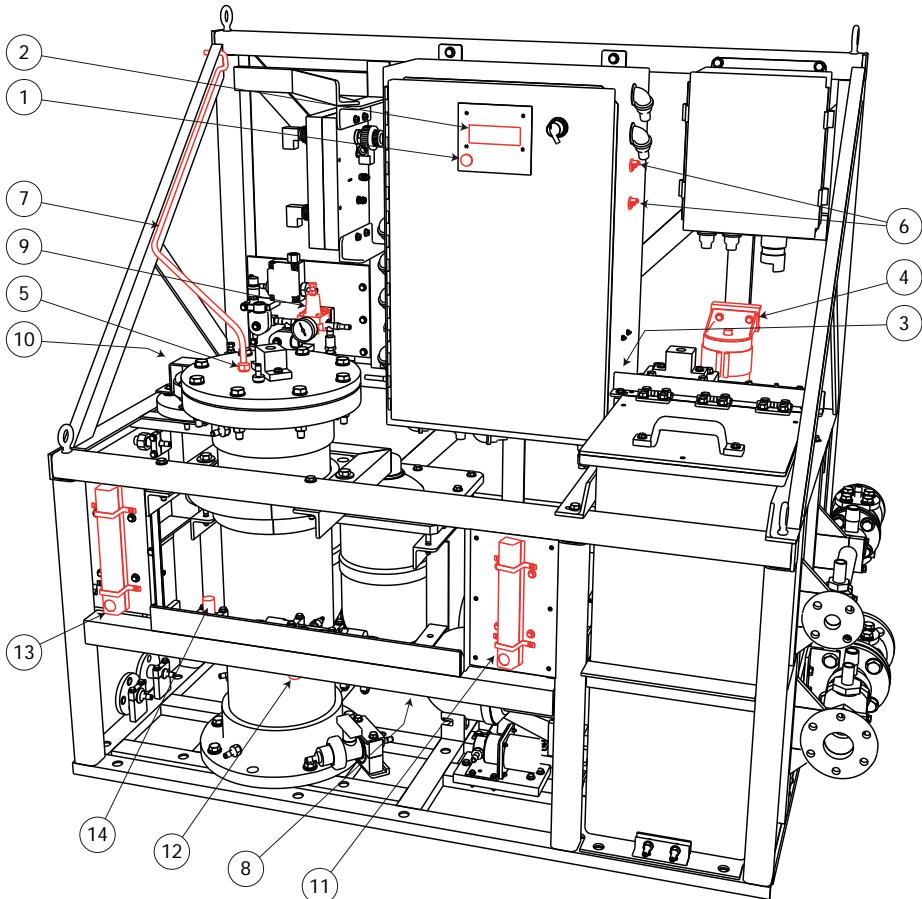

Figure 1. Upgrade Items
(Figure 1 except as indicated)
(Figure 1)
- a. Locate the 1" diameter hose section at the inline booster pump inlet (Figure 1, 8). Remove cable ties as necessary to access the hose section.
- a. Locate the water pressure regulator (Figure 1, 9) at the rear of the frame near the electrolytic cell.